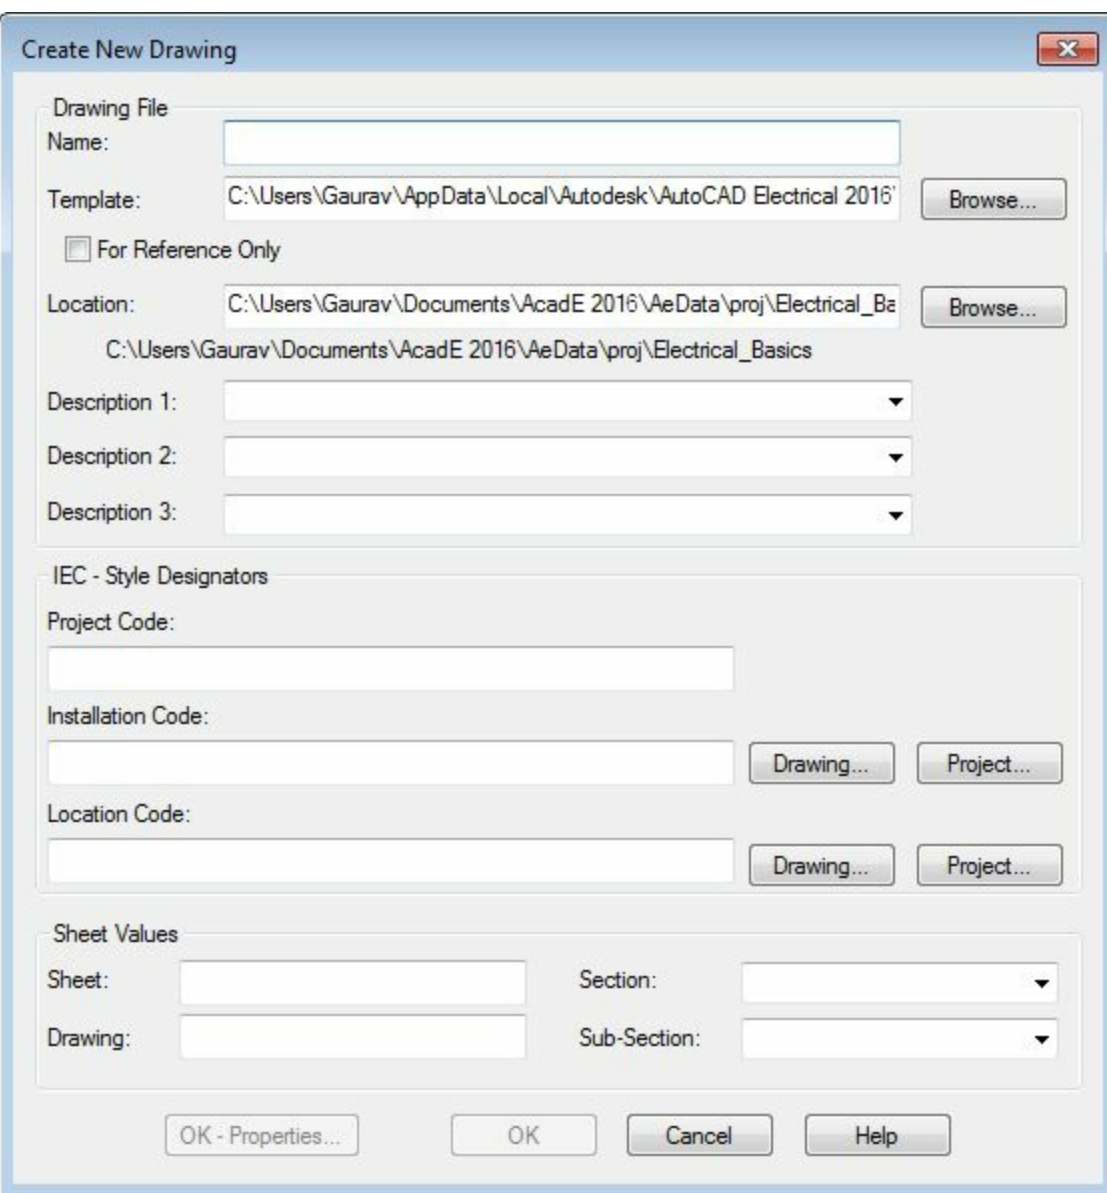

Figure-46. Create New Drawing dialog box
- Click on the **New Drawing** button. The **Create New Drawing** dialog box will be displayed; refer to Figure-46.